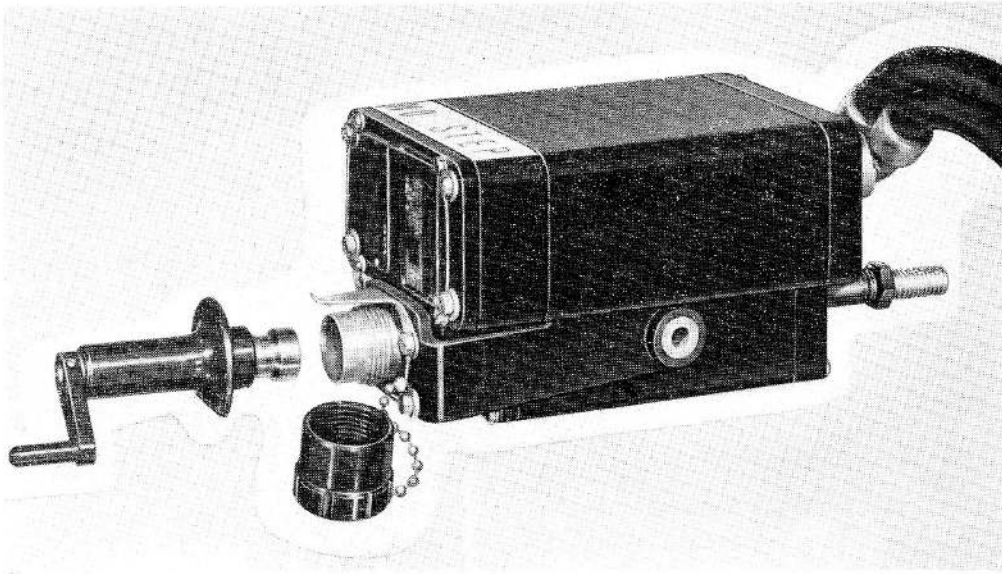
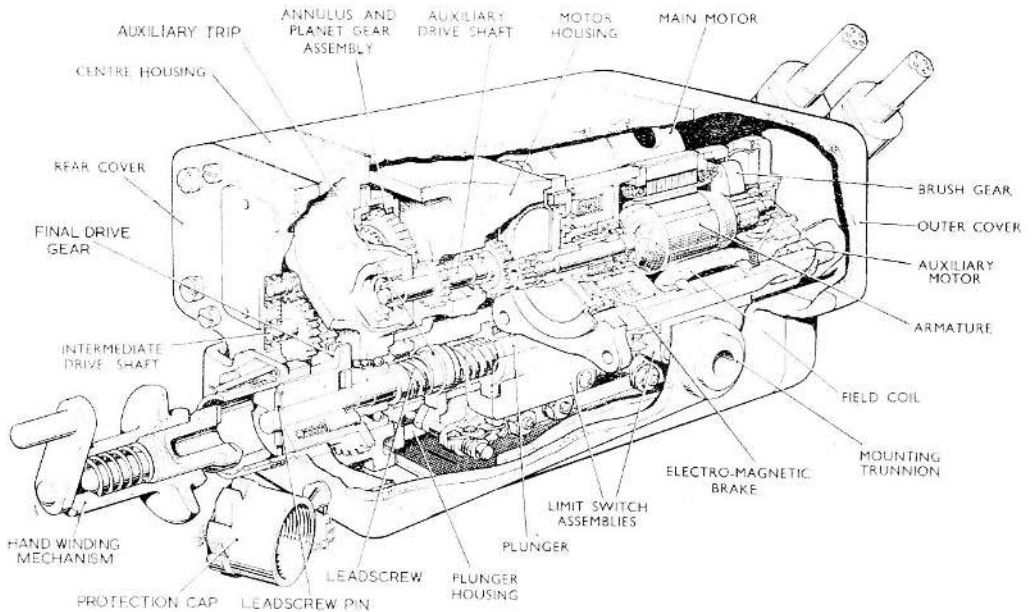

Fig. 1. General view of actuator and cable outlets
Fig. 2. Sectional view of Actuator
4. A general view of the actuator and hand-wind mechanism is shown in fig. 1 and a sectioned view in fig. 2. The two motors are mounted alongside each other and are both offset from the plunger. In normal operation, both motors are energized simultaneously, the actuator will however, function at half speed in the event of supply failure to one or other of the motors.